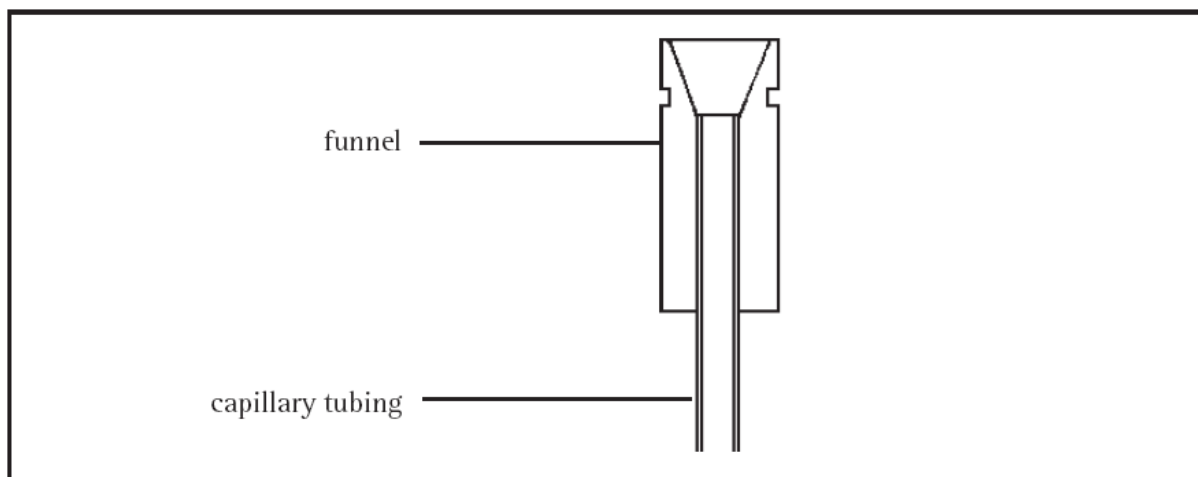

Figure 1. Funnel with capillary tubing correctly inserted
- 2 Push one end of the capillary tubing through the hole in the underside of the funnel. The end of the capillary tubing must not protrude through the bottom of the funnel cone otherwise the solutions will not be aspirated into the flame. See Figure 1.